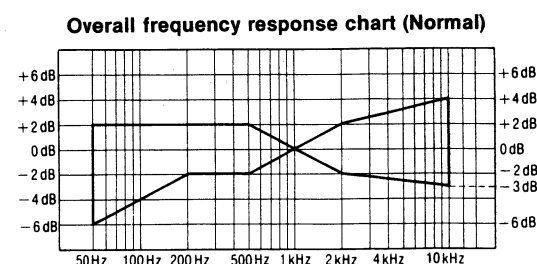

Fig. 2
2. Playback the signal recorded in step 1, and check that the level of each output frequency is within the range shown in Fig.2 in comparison with the reference frequency (1kHz).